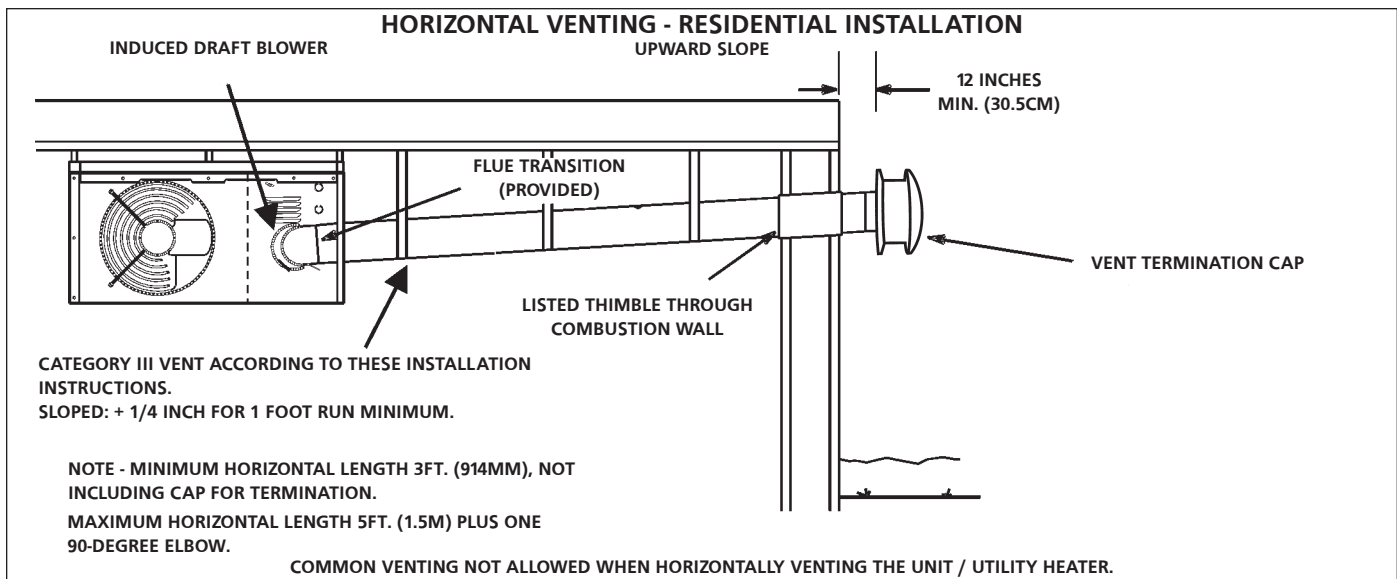

FIGURE 6
1. For horizontal residential installations these units are certified as Category III appliances. **Venting A - General Recommendations and Requirements** and **C - Horizontal Venting General** and **E - Horizontal Venting - Residential**. Refer to **figure 6**.